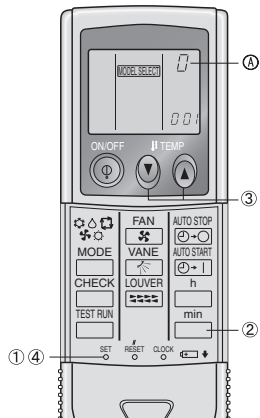

Fig. 6-9
- ① Press the SET button with something sharp at the end. Operate when display of remote controller is off. **MODEL SELECT** blinks and Model No. is lit Ⓐ.
- ② Press the AUTO STOP Ⓞ button. **MODEL SELECT** blinks and setting No. is lit Ⓑ. (Setting No.01: without automatic fan speed)
- ③ Press the temp. \uparrow \downarrow buttons to set the setting No.02. (Setting No.02: with automatic fan speed) If you mistook the operation, press the ON/OFF Ⓞ button and operate again from procedure ②.
- ④ Press the SET button with something sharp at the end. **MODEL SELECT** and Model No. are lit for 3 seconds, then turned off.
3) Assigning a IR wireless remote controller to each unit (Fig. 6-9)
4) IR wireless remote controller pair number setting operation (Fig. 6-9)
- ① Press the SET button with something sharp at the end. Start this operation from the status of IR wireless remote controller display turned off. **MODEL SELECT** blinks and Model No. is lit.
- ② Press the min button twice continuously. Pair No. "0" blinks.
- ③ Press the temp \uparrow \downarrow buttons to set the pair number you want to set. If you mistook the operation, press the ON/OFF Ⓞ button and operate again from procedure 2.
- ④ Press the SET button with something sharp at the end. Set pair number is lit for three seconds then turned off.